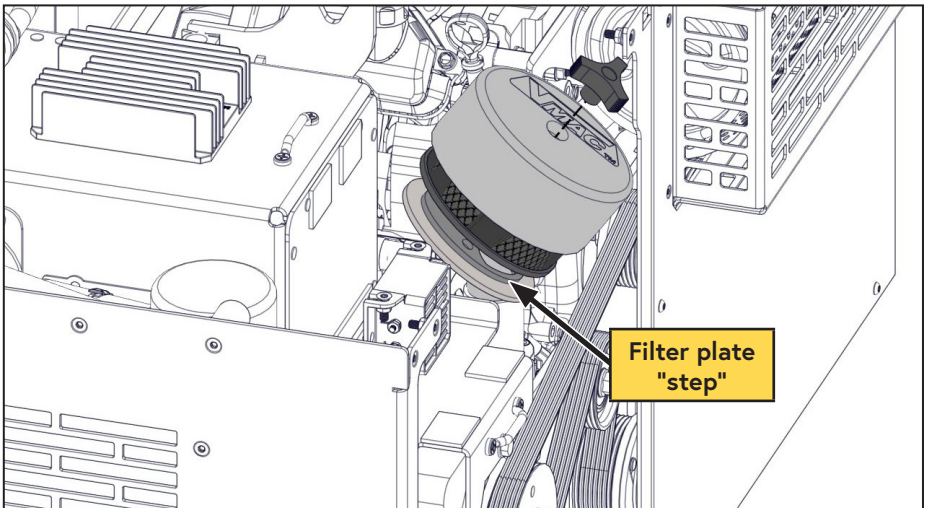

Figure 29 — Install air filter element
The compressor air filter can be accessed and changed from the service panel side of the Gas MF. For clarity, Figure 29 is shown with the top panel open.
- Ensure the filter element fits securely onto the filter plate "step" (Figure 29).